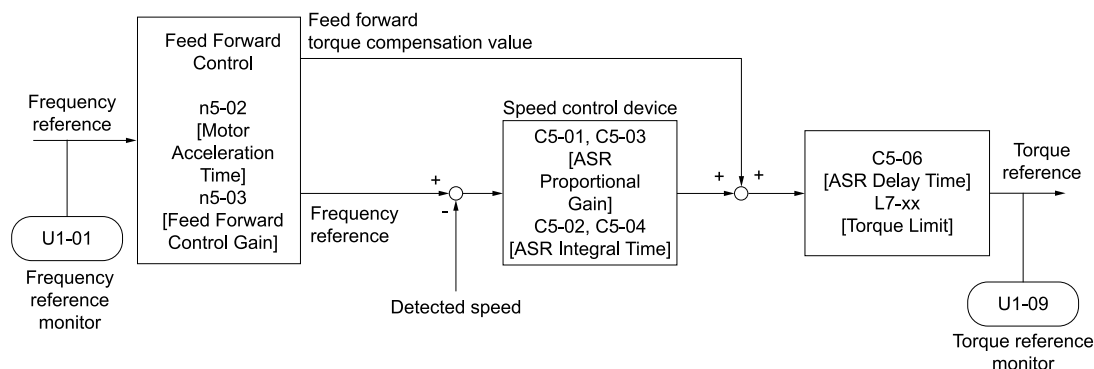

Figure 12.130 Configure Feed Forward Control
Increase the values set in *C5-01* and *C5-03* [ASR PGain 1 and ASR PGain 2] to apply feed forward control to machines that have low rigidity and are possible to have hunting and vibration or to machines that have a large quantity of inertia. Refer to Figure 12.130 for more information about parameters related to feed forward control.
- If you cannot do Inertia Tuning, refer to Figure 12.130 and set the parameters related to feed forward control individually.